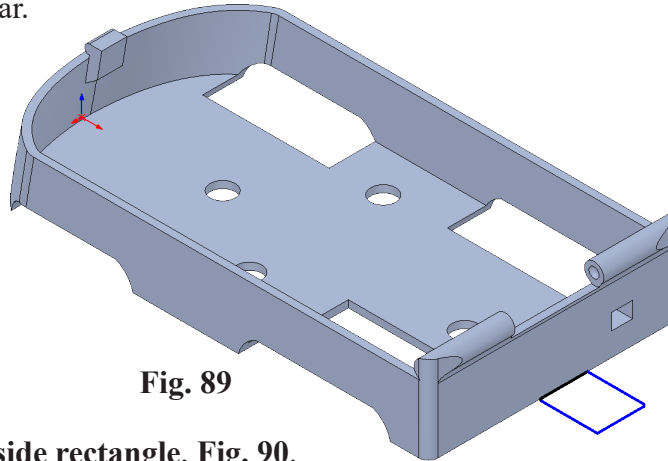

Fig. 89
Step 1. Rotate view to rear, **Fig. 89**. To rotate view, **Shift click the Y axis** of the Reference Triad
Step 4. Sketch corner rectangle along rear edge, **Fig. 89**.